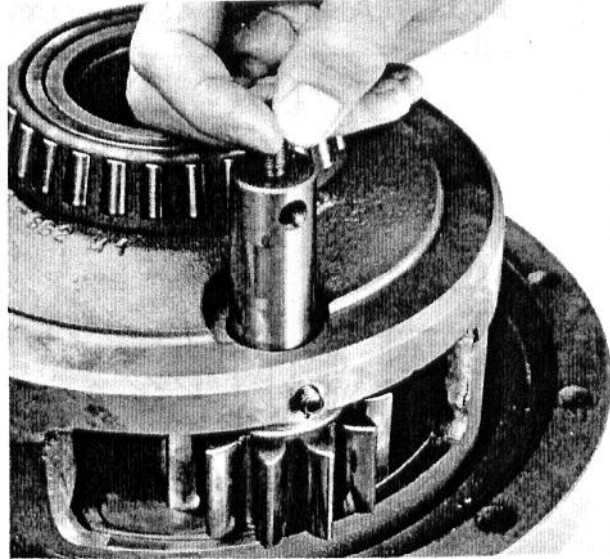

Fig. 28 - Planetary Pinion Shaft Removal or Installation
2. Remove the planetary gear from the largest opening in the planetary carrier. Refer to Fig. 28.
11. Remove the remaining planetary pinions from the planetary carriers previously described in Step 2. Refer to Fig. 28.
- e. Insert the planetary pinion shaft in the carrier and thru the pinion with the aid of a 3/8 UNF cap screw screwed into the end of the shaft. Refer to Fig. 28.